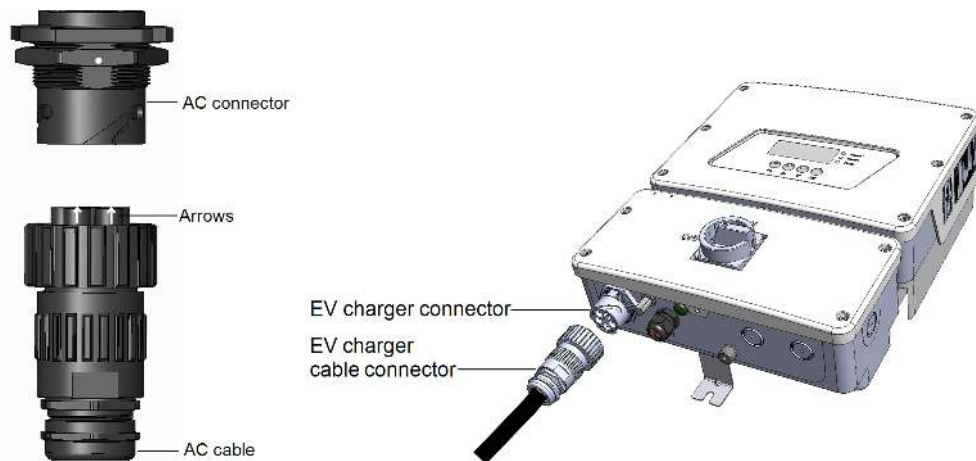

Figure 1: EV cable connection
1. Connect the EV charger Cable to the inverter (see Figure 1):